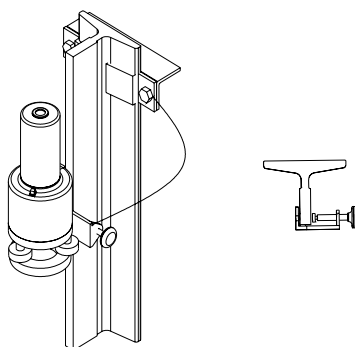

Fig 1.5
The fixer is to fasten JZC—E instrument on the guide rail conveniently and the safety tether is to prevent the instrument from it's falling (see Fig 1.5). There is the interface on the principal part to install the instrument on the tripod when it is used for other application.
2.1.2 Fasten the main body on the top of the guide rail. The rail should be clean. The five pegs should be close-contact on the two faces of guide rail. Lock the wheel and fasten it on the rail (see Fig 1.5). The main body will not be moved again during the measurement unless the relay measurement is operated for the high building.
2.1.3 Drill the hole on the fixer and tie the tether on the bracket of guide rail against instrument falling down (see Fig 1.5).